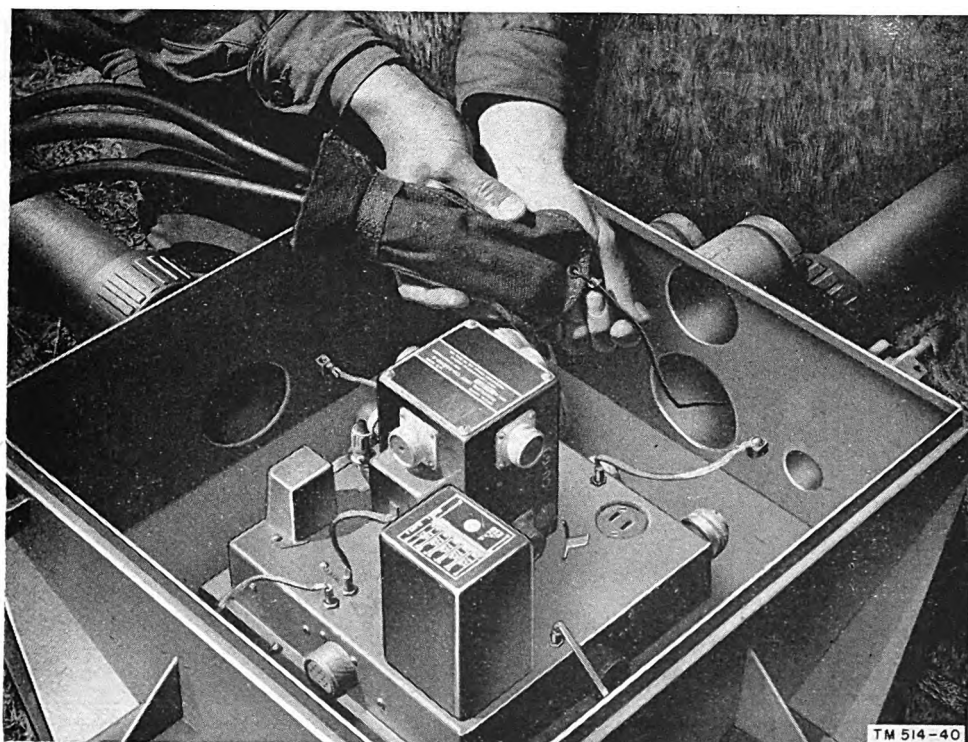

Figure 30. Using bags to protect connectors while pulling cables through supports.
the cable ends during installation. The bags also may be used to pull the three interconnecting cables ((3) below) through the horizontal supports by attaching a long piece of line or wire ((b(3) above) to the eyelet at the end of the bag (fig. 30).
- (2) Open the door on each outer box.
- (3) Insert a set of interconnecting cables into each horizontal support, starting from the junction box and pulling them toward the antenna support. One set of interconnecting cables consists of: interconnecting control cable Cord CX-455/CRD-2, interconnecting r-f cable (plug color-coded red) Cord CG-240/CRD-2, and interconnecting r-f cable (plug color-coded green) Cord CG-240/CRD-2.
- (4) After the cables have been pulled through the horizontal supports, proceed as follows: